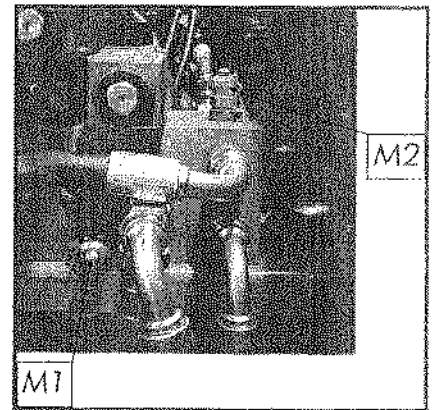

Figure 11-2. Measuring points
2. Connect a pressure gauge to measuring point M1 of the turntable valve group (figure 11-2).
1. Connect pressure gauge to measuring point M2 of the turntable valve group (figure 11-2).
1. Connect a pressure gauge to measuring point M2 of the turntable valve group (figure 11-2).